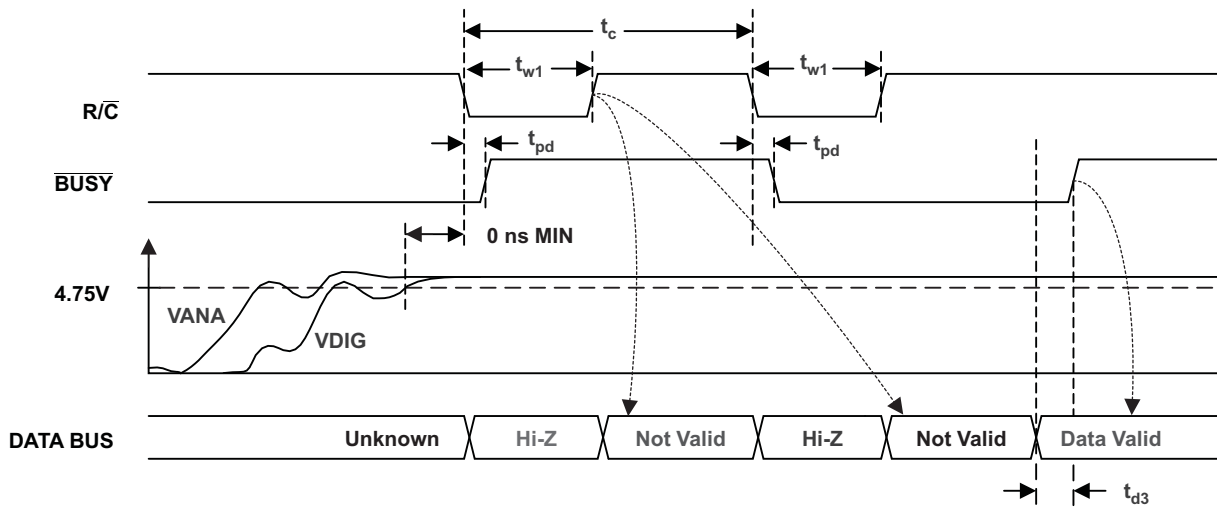

Figure 22. ADC Reset
The combination of \overline{CS} (pin 25) and R/\overline{C} (pin 24) low for a minimum of 40 ns immediately puts the sample/hold of the ADS8504 in the hold state and starts conversion n . \overline{BUSY} (pin 26) goes low and stays low until conversion n is completed and the internal output register has been updated. All new convert commands during \overline{BUSY} low will abort the conversion in progress and reset the ADC (see Figure 22).
(2) See Figure 22 for details on ADC reset.